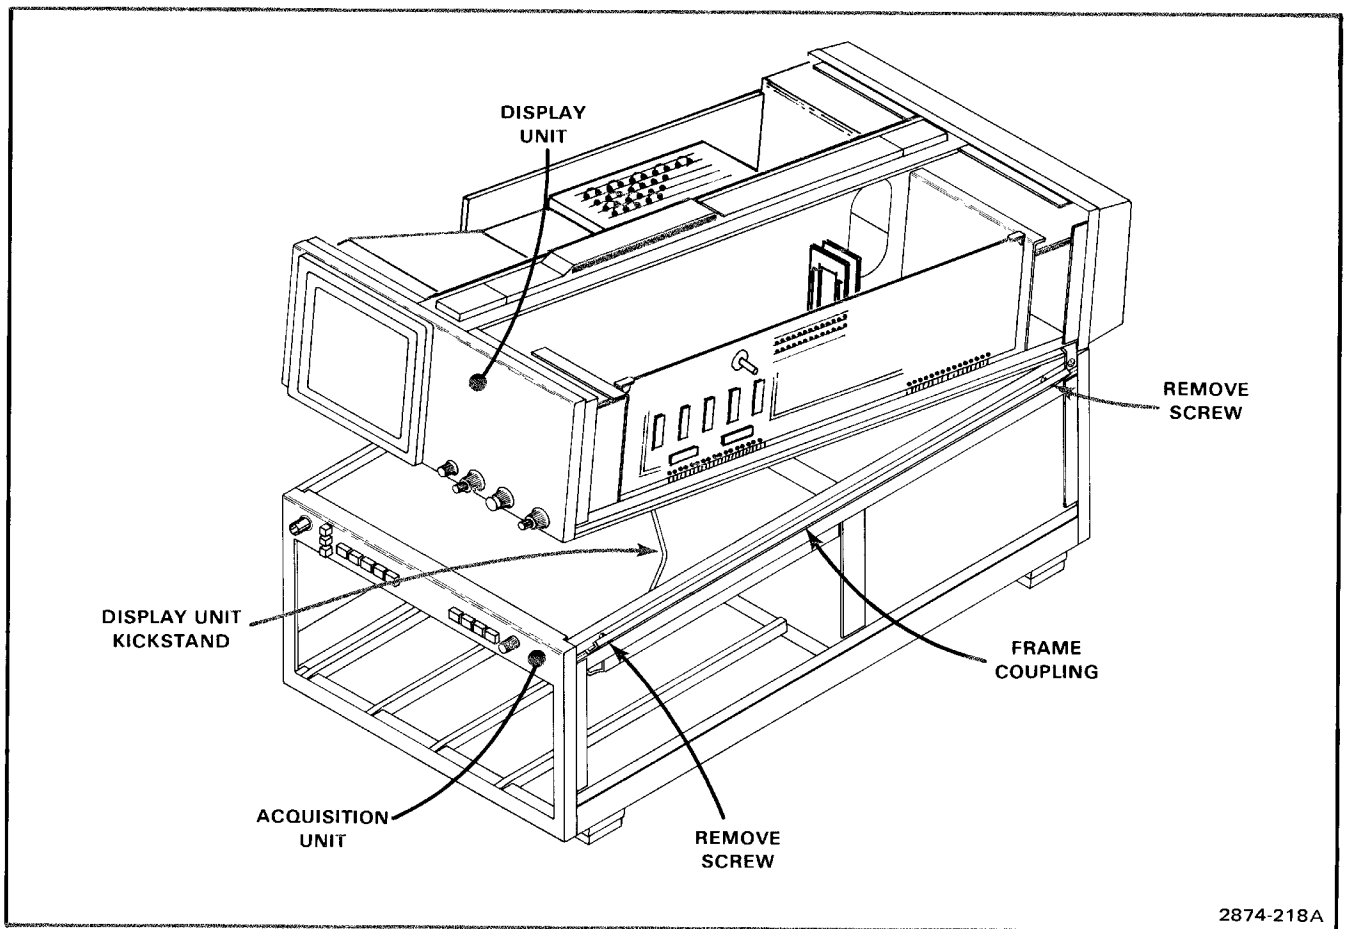

Figure 3-12. Use of the Display Unit kickstand.
The Display unit of the 7854 Oscilloscope mainframe is equipped with a kickstand to ease access to interior components of the instrument (see Fig. 3-12). To use the kickstand feature, disconnect the power-cord plug from the power source. Then remove the side and top panels as described under Cabinet Panel Removal. Remove the two frame coupling screws on each side of the 7854. This will allow the upper portion of the frame coupling to be pivoted outward. The two units can now be separated at the front of the instrument (the kickstand will hold the units apart). To assemble the units, disengage the kickstand and reverse the disassembly procedure.
1. Separate the Display Unit from the Acquisition Unit as previously described under Display Unit Kickstand. (Fig. 3-12)
2. Remove the VERT TRACE SEPARATION (B) knob.